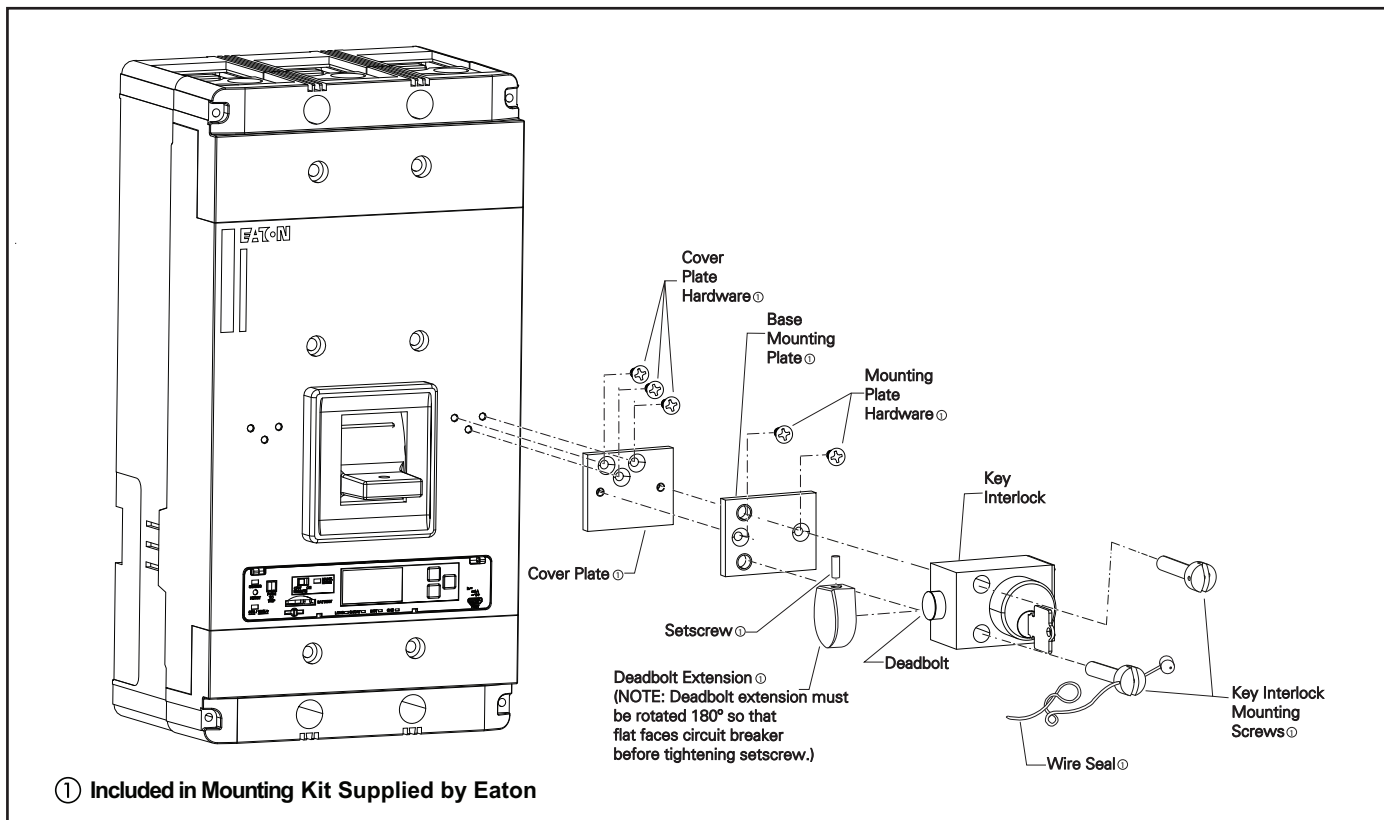

Fig. 2-1 Key Interlock Installation.
- 2-1. Mounting holes are located in the cover (See Fig. 2-1.)
- 2-2. Position cover plate on circuit breaker cover. Align mounting holes. (Fig. 2-1.)
- 2-5. Assemble bolt extension to deadbolt with flat area towards circuit breaker. Secure with setscrew provided (Fig. 2-1).